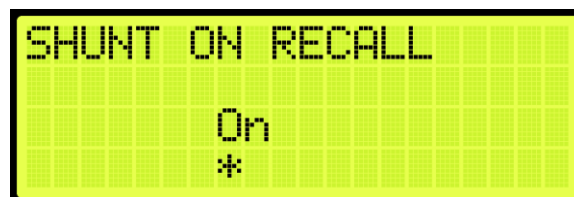

Figure 570: SHUNT ON RECALL Menu
5. From the SHUNT ON RECALL menu, scroll and select On (See Figure 570).